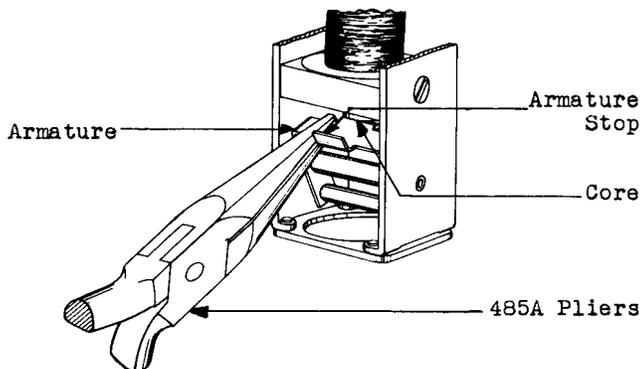

Fig. 9 – Adjusting Armature
(1) If the armature touches the face of the core, remove the relay from its mounting as covered in 3.002. Then adjust the armature slightly away from the core with the 485A pliers applied to each side of the offset portion as shown in Fig. 9. An increase in the separation between the armature and the core will have a direct effect on the electrical performance of the relay. Care must therefore be exercised in making this adjustment that the gap between the armature and core will not be so great as to prevent the armature from fully operating when the operate current is applied.